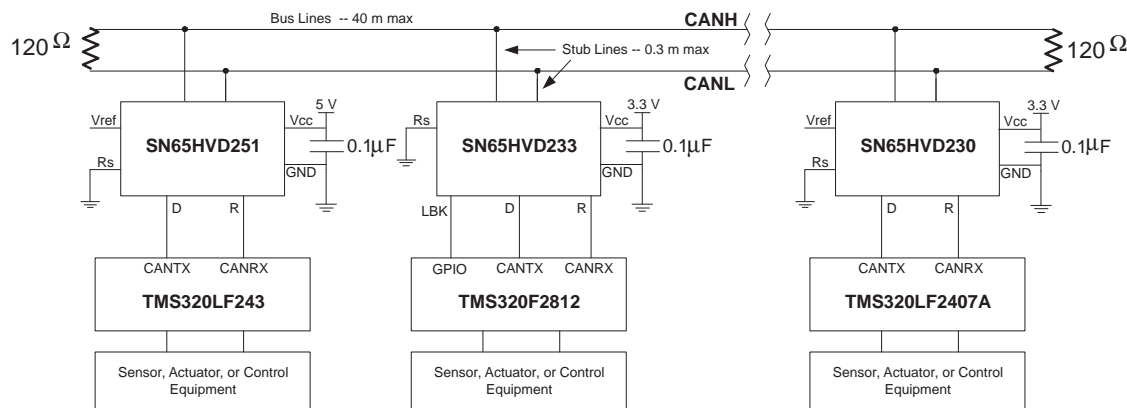

Figure 28. Typical HVD233 Application
The loopback (LBK) function of the HVD233 is enabled with a high-level input to pin 5. This forces the driver into a recessive state and redirects the data (D) input at pin 1 to the received-data output (R) at pin 4. This allows the host controller to input and read back a bit sequence to perform diagnostic routines without disturbing the CAN bus. A typical CAN bus application is displayed in Figure 28.